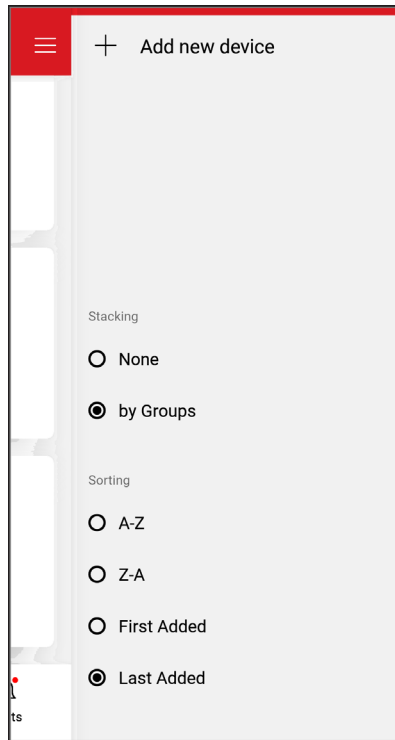

Figure 81. Add New Device
Once the user registration is complete, you can begin to add your AVIA heaters via the Raymote mobile app. See **Figure 81**.
- 4. In the Raymote app, press the menu button  located at the top left corner of the screen, then press "+ Add new device". See **Figure 81**.